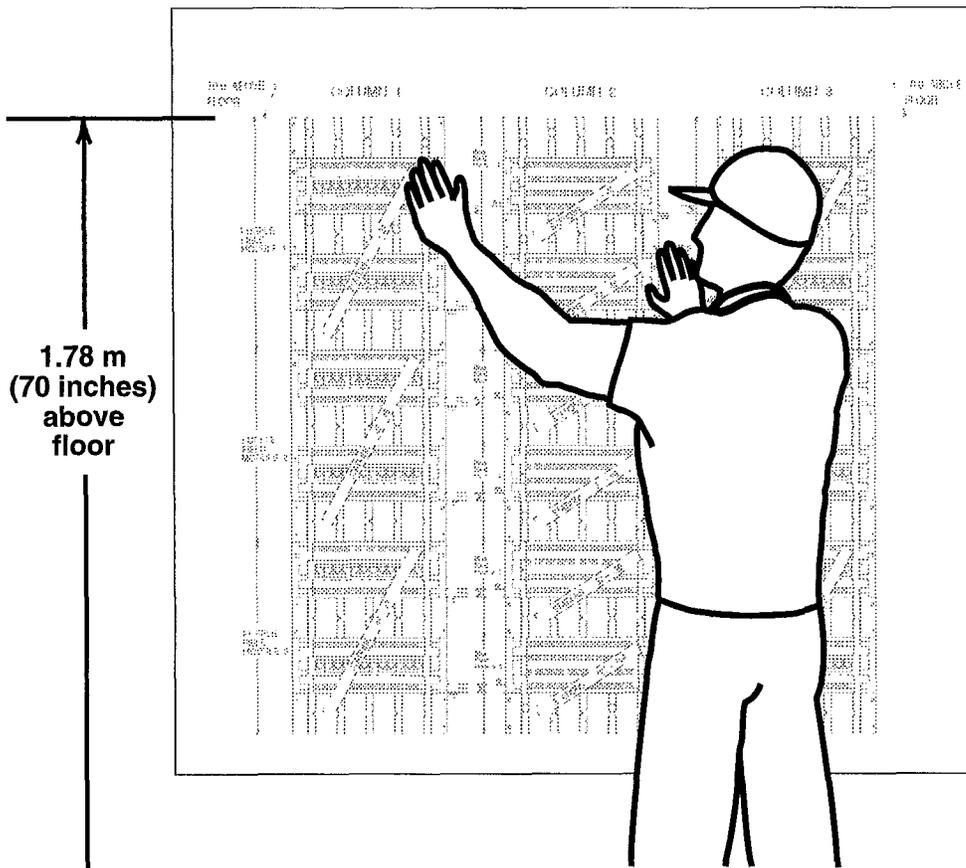

Figure 3-35. Attaching the SYSTIMAX Template to the Wall
2. Attach the template to the wall or backboard with a staple gun, tacks, or tape. Make sure that the upper edge of the template outline is 1.78 m (70 inches) above the floor and that the template is parallel to the floor (see Figure 3-35).